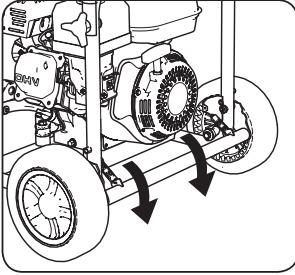

Fig 7
- Lock the Transportation Wheels using the wheel brake. (Fig. 7)